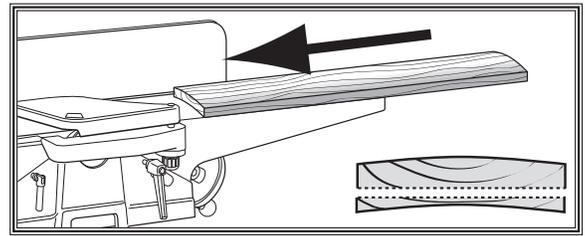

Figure 24. Surface plane on the jointer.
1. **Surface Plane on the Jointer:** The concave face of the workpiece is surface planed flat with the jointer (see Figure 24).